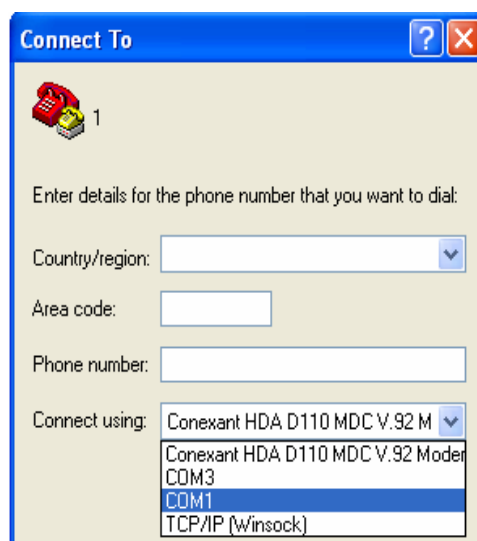
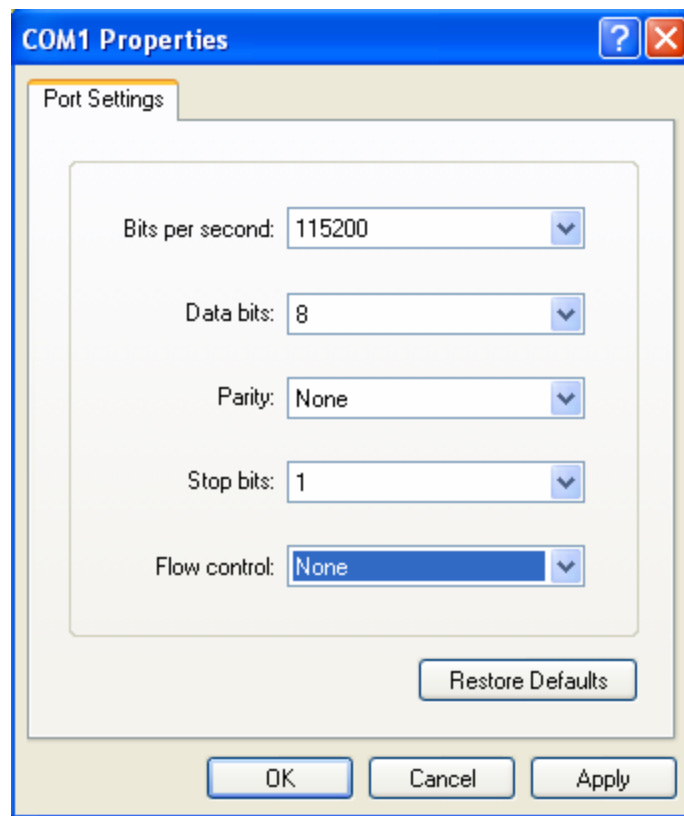

Fig 4
Fig 5
2) Put in the name “hikvision”. And do step 1 again. Then enter into fig 4 and select COM1 and click “OK” to enter into fig 5.